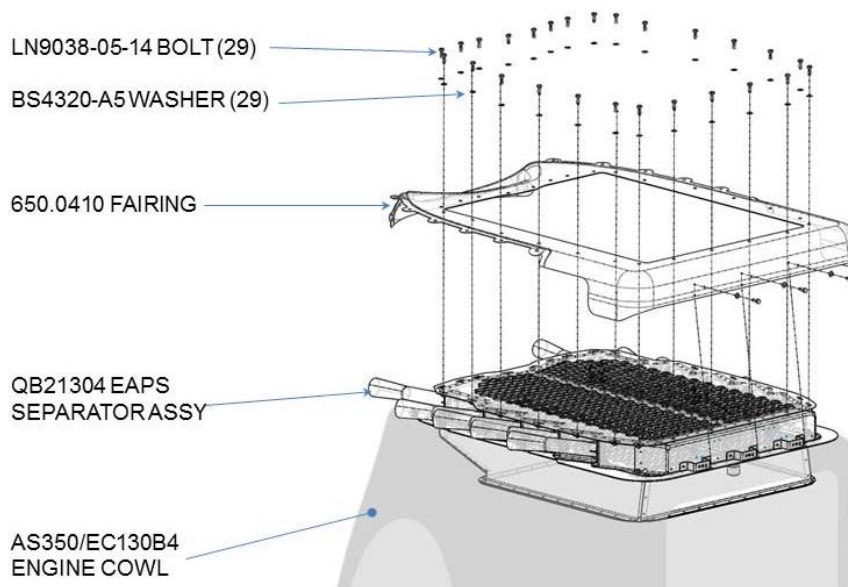

Figure 8 - Fairing Installation
- 3.1.12. Re-install the 650.0410 EAPS Fairing onto the QB21304 EAPS Panel using Qty (26) LN9038-05-14 bolts and Qty (26) BS4320-A5 washers into the top side of the 650.0410 EAPS Fairing. Install Qty (3) LN9038-05-14 bolts and Qty (3) BS4320-A5 washers into the front side of the 650.0410 EAPS Fairing. See Figure 8.